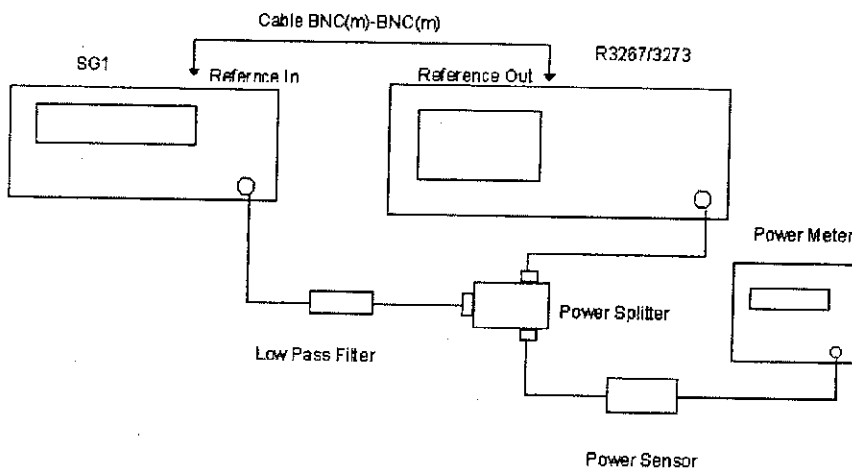

Figure 3-13 Setup of a Second Harmonics Distortion Test
3. Connect equipment as shown in Figure 3-13.